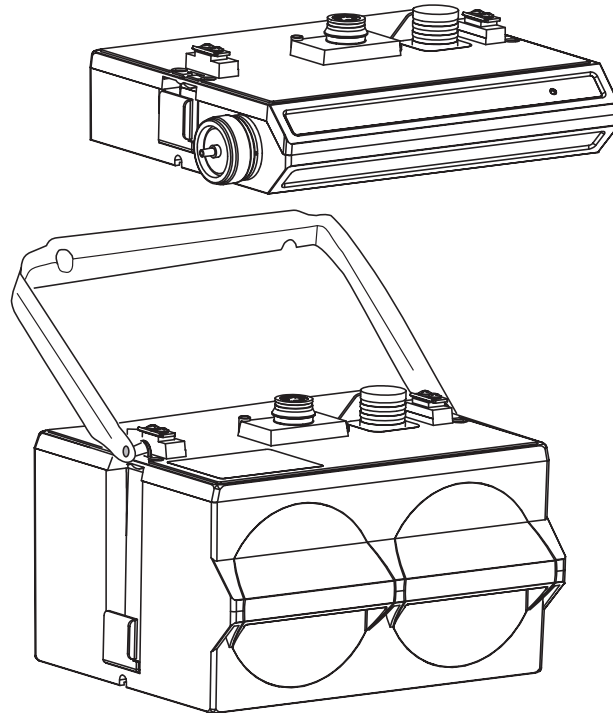

Figure 2-6 Assembling a basic portable system
- a. Install the 2150EX module (2.4.5 and Figure 2-6).
To connect the 2150EX and 2191EX/2196EX modules, refer to the following instructions and Figure 2-6.